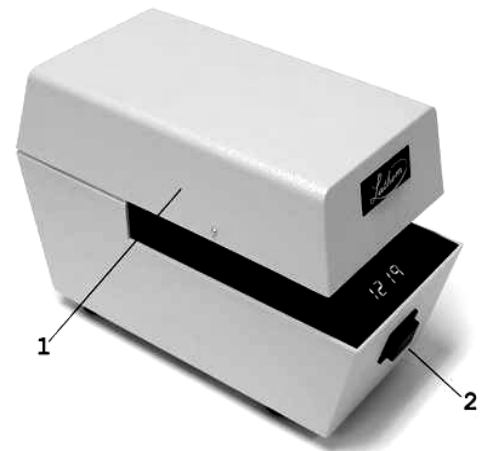

Figure 1
When forms are fully inserted into the stamp, an automatic trigger causes registration. There may be times when it is desirable to activate the printing manually. The LT Series gives you that option. To operate manually, insert a form to the desired position by aligning the desired registration position with the print locators (Figure 1, Number 1) on the side of the case. When the form is properly aligned,
press the manual registration switch on the front of the unit (Figure 1, Number 2).
Depending on the type of document being stamped, it may be necessary to change the registration position. This can be accomplished by moving the trigger assembly. The trigger assembly has a range of motion of about two (2) inches forward or backward. The trigger assembly tells the unit how far the document must be inserted before activating the stamp. The print locators on either side of the top cover (Page 5, Figure 1, Number 1) can help you center the registration point.